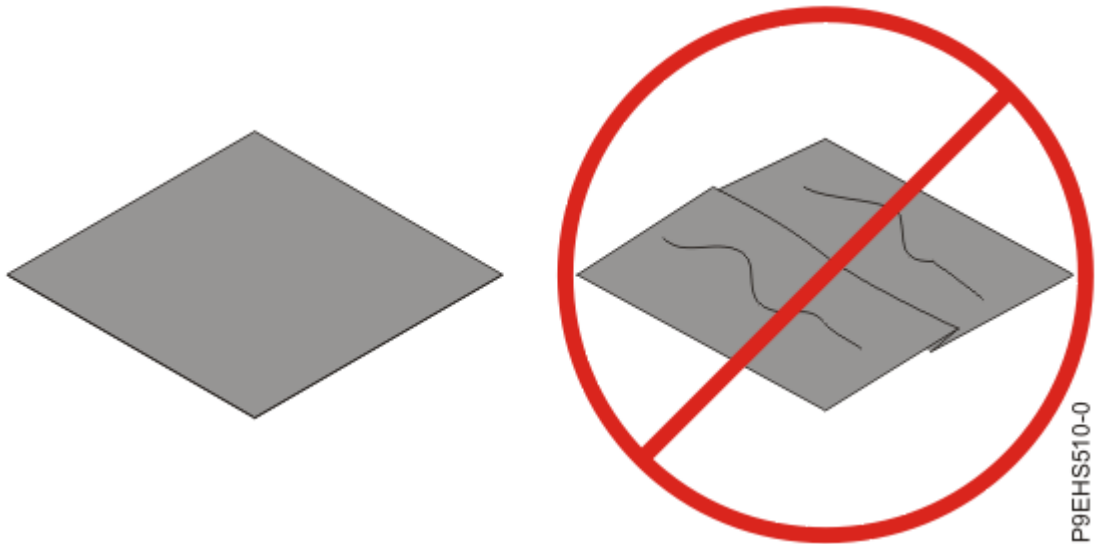

Figure 152. Inspecting the thermal interface material
- 6. Inspect the thermal interface material (TIM) for visible signs of damage, as shown in Figure 152 on page 167. If you see folds, tears, bends, or if you have doubts about the TIM, replace it.